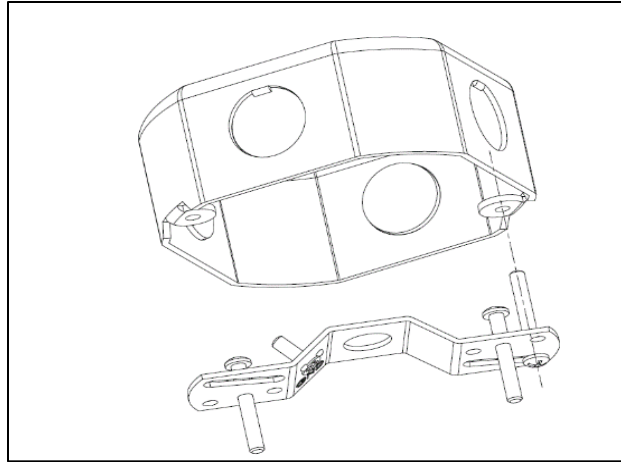
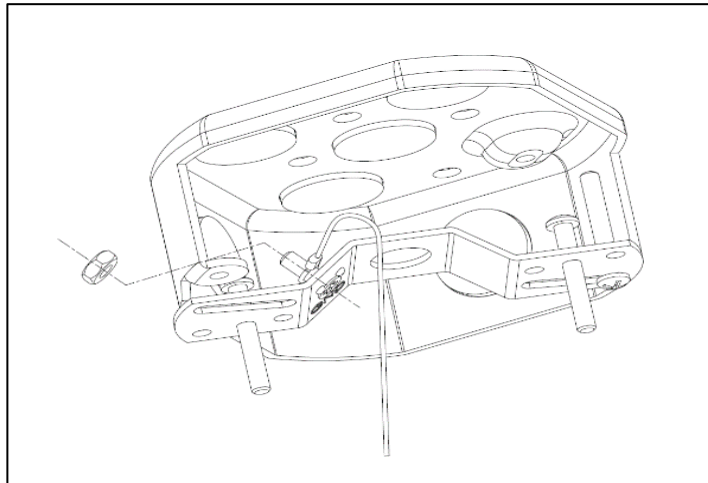
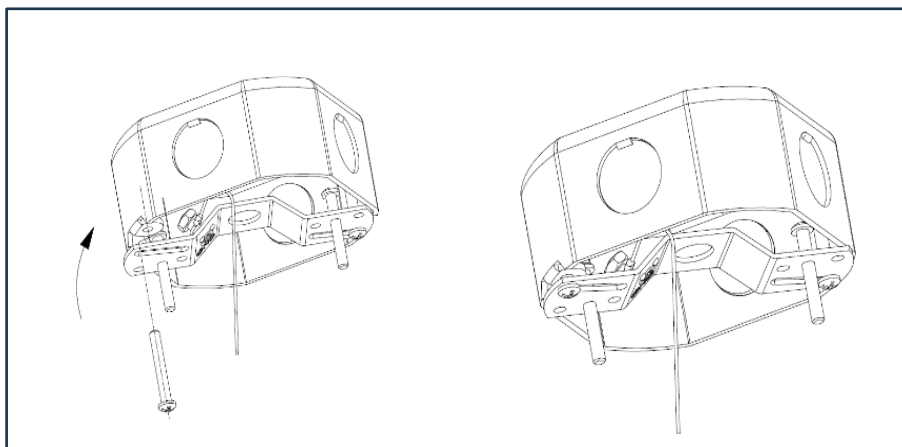

Figure 5
Figure 6
Figure 7
- Use one of **#8 Screws** provided to secure the Mounting Bracket flush to the ceiling by fastening it to the Junction Box. Ensure the two adjustable screws facing the room side (See Figure 5). Attach the **eyelet end of the Tether Cable** through the provided 12mm screw location. Thread the tether eyelet through the top end of the 12mm screw and secure eyelet with the supplied nut by tightening the nut on top of the eyelet. (See Figure 6). Rotate and align the mounting bracket slot to j box mounting hole, then use the other #8 screw to secure the bracket in place (See Figure 7).